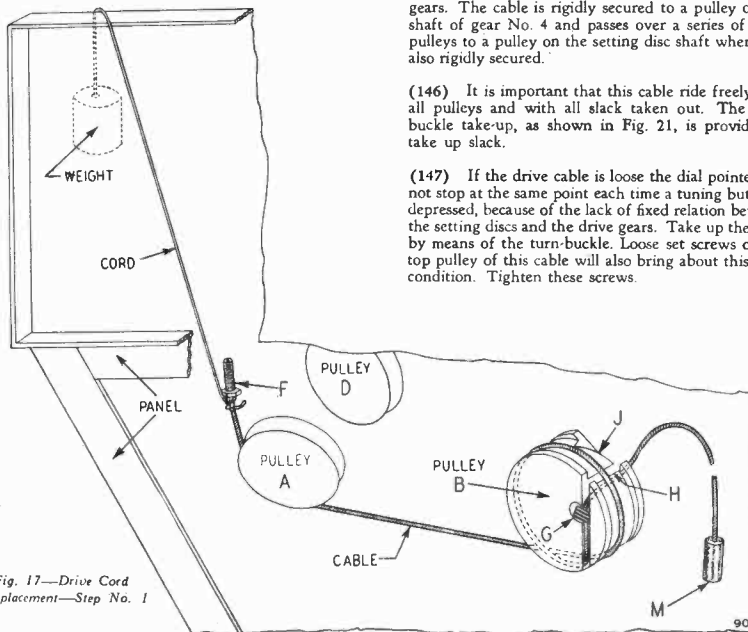

Fig. 17—Drive Cord Replacement—Step No. 1
(155) With screw end F (Fig. 17) hanging down, place the cable into the vertical slot at the back of pulley B with the knot inside of the opening at point G.
(157) Bring the screw end of the cable over to pulley A and hold it in this position. This can be done by fastening a 10 inch stout cord to the end of cable F. Attach a weight to the other end of this cord and let the weight hang over the top of the panel as shown in Fig. 17. Instead of a stout cord, the round knurled nut and old cable can be secured to the screw end of the new cable.